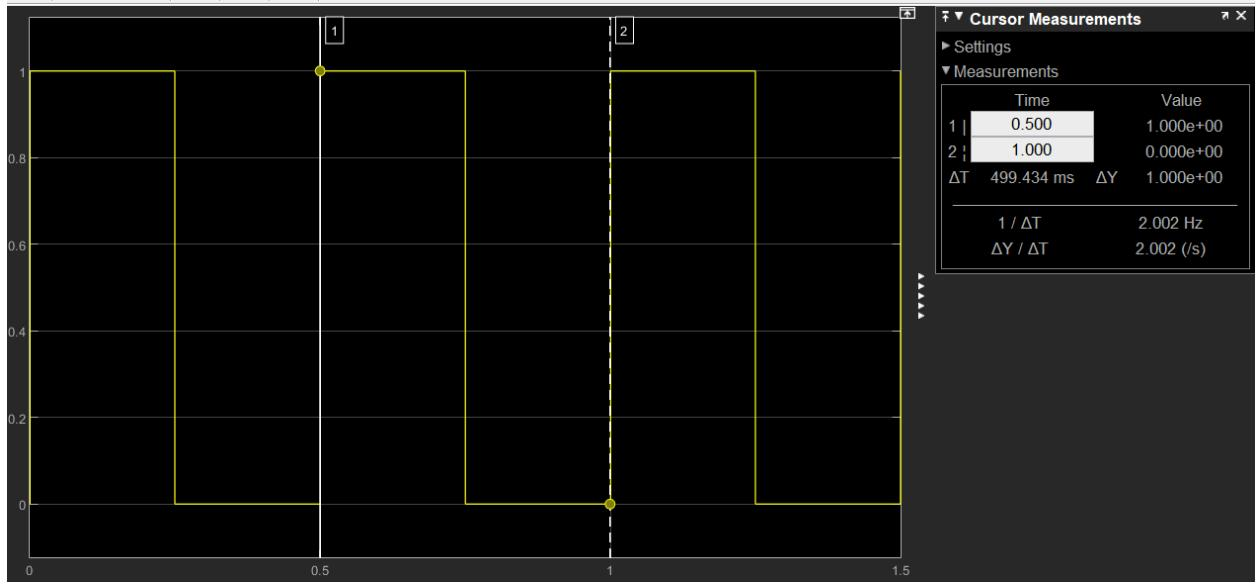
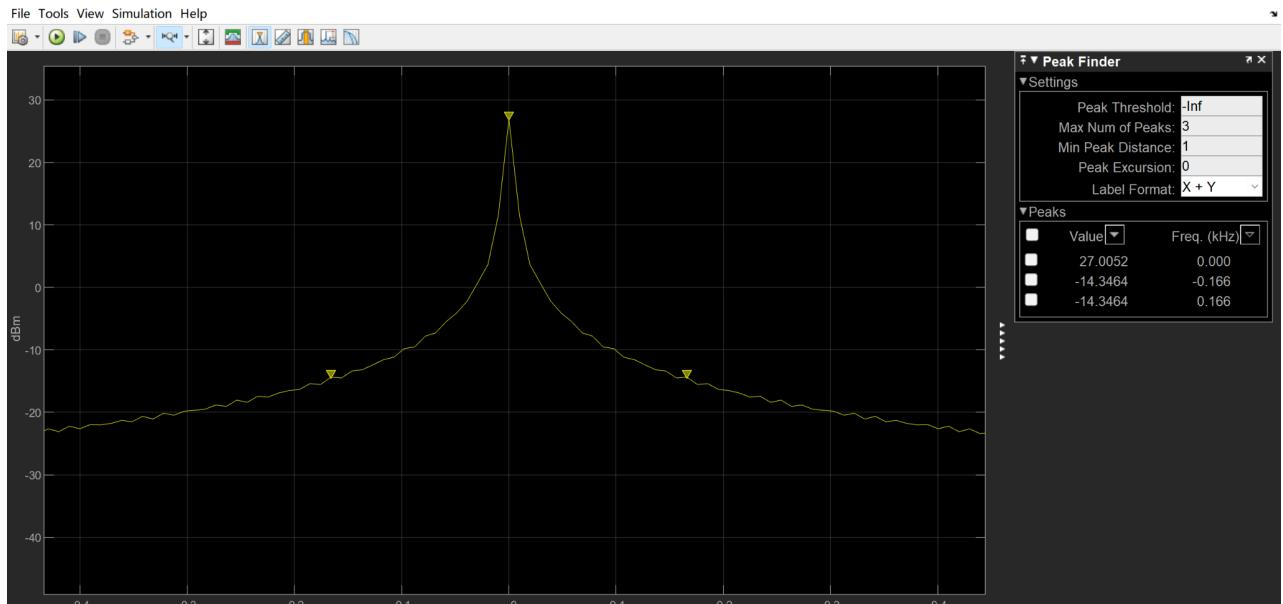

Fig. 5: Output of the square-wave (50% duty cycle) on the Scope
Fig. 6: Output of the square-wave (50% duty cycle) on the Spectrum
- 3) We repeated step one with a square wave, with a 50% duty cycle, generated by the pulse generator. We set its pulse type to sample based and sample time to 1e-4. The outputs on the Scope and the Spectrum are shown in Fig. 5 and Fig. 6.